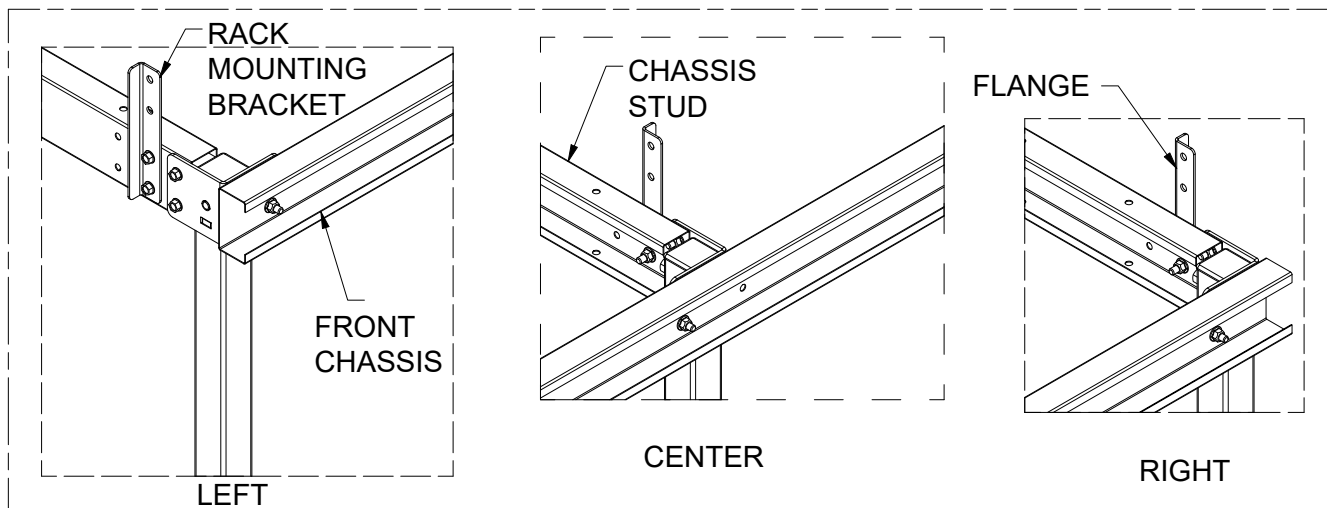
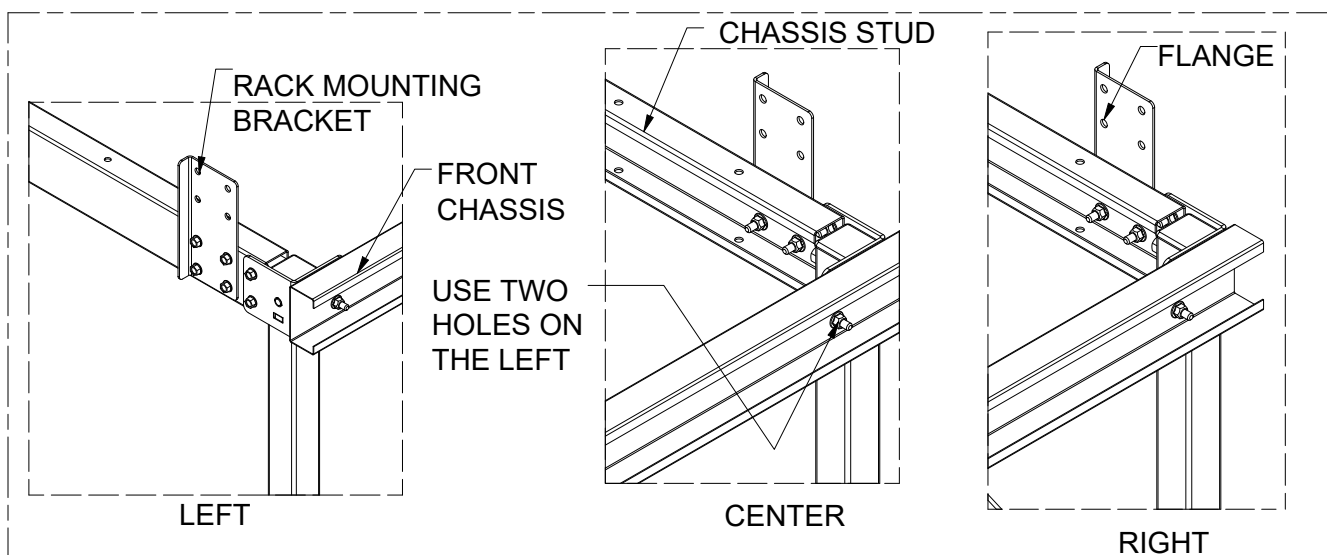
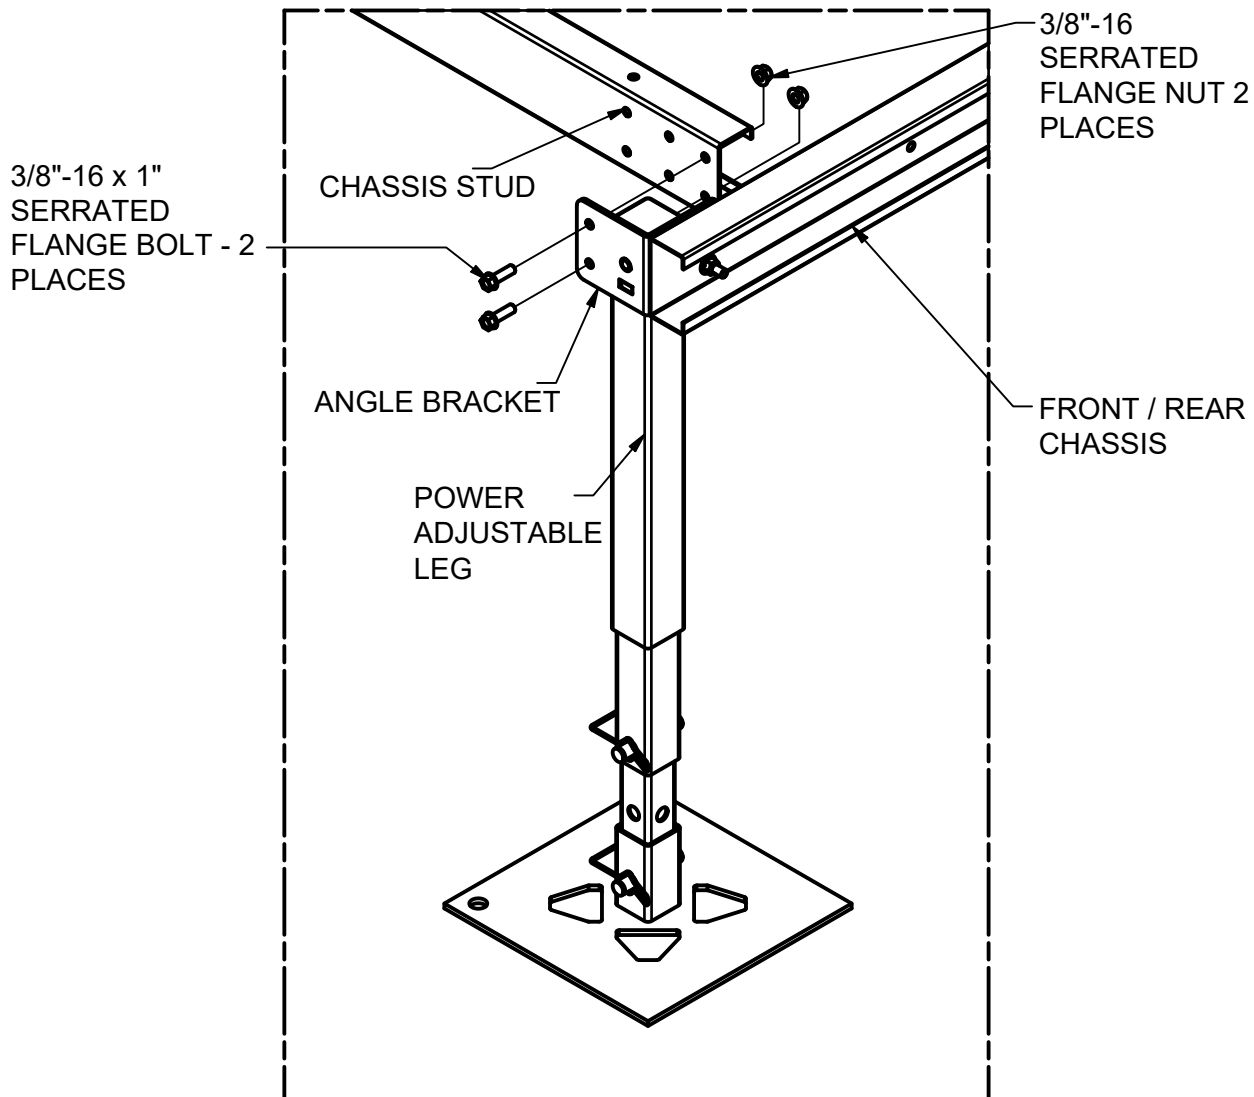

FIGURE 4: Chassis Assembly - STD
FIGURE 5: Chassis Assembly - HD / XHD
Figure 6: Chassis Stud to Angle Bracket on Power Adjustable Leg
Adjustable Legs just inside the Rear Chassis. The legs will create the corners of the PowerPlatform. Note that there are four pre-punched holes in the center of the chassis. The two holes on the left should be used. Refer to Figure 4 below. Figure 5 shows similar detail for the HD/XHD version Powerplatform.
4. Place three Chassis Studs perpendicular to the Front & Rear Chassis aligned with the Power Adjustable Legs near the corresponding pre-punched bolt holes. Note how Chassis Studs are oriented in Figure 4 & 5 above and Figure 6 below.